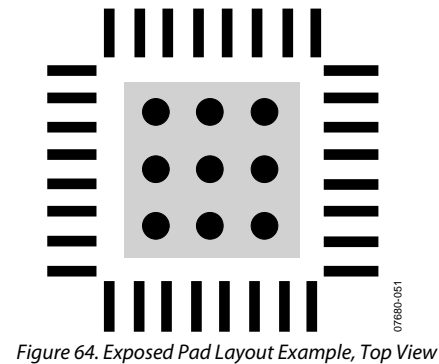

Figure 64. Exposed Pad Layout Example, Top View
- Vias should be placed to connect all layers of copper, allowing for efficient heat and energy conductivity. For an example, see Figure 64, which has nine vias arranged in a 3 inch  $\times$  3 inch grid in the pad area.